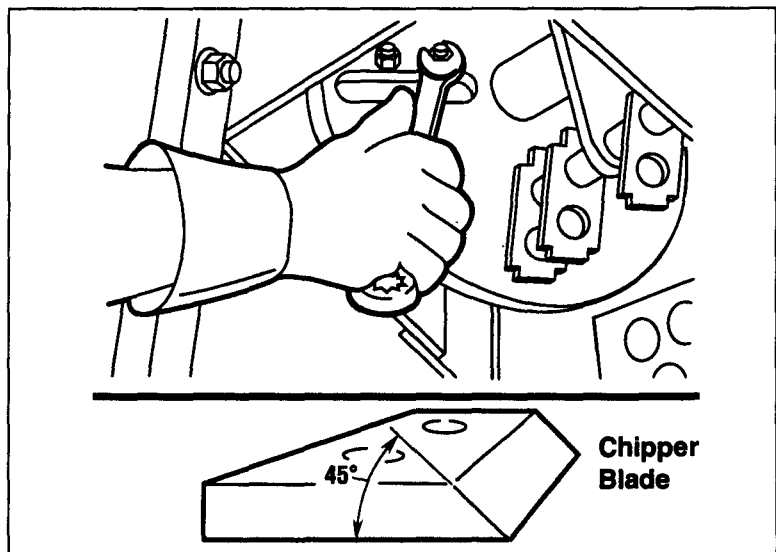

Figure 5-7: Removing the chipper blade.
7. Using a 5/32" hex key wrench and a 7/16" open-end wrench, reach up inside the shredder chamber and remove the two nuts and socket head screws from the chipper blade (see Figure 5-7). Remove the chipper blade.
8. If a blade is dull or nicked, sharpen it at a 45° angle. See inset, Figure 5-7. If you don't have sharpening experience and the proper equipment, take the blade to a professional sharpening service.